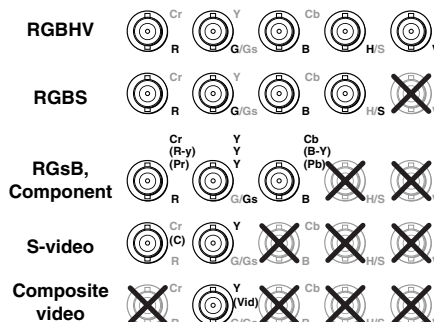

Figure 2-3 — Connections for various input video formats
- ① **Input 1 and Input 2 S-video connectors** — Connect S-video sources to these 4-pin mini DIN connectors. If necessary, use an 8" Extron SVHS - BNC adapter, part #26-353-01.
- ② **Input 1 and Input 2 composite video connectors** — Connect composite video sources to these female BNC connectors.
- ③ **Input 3 and Input 4 connectors** — Connect computer or RGB video, component video, S-video, or composite video to these female BNC connectors. Figure 2-3 shows how to connect the various video formats.
- ④ **Input 1 through Input 4 audio connectors** — Connect each unbalanced stereo audio input to these pairs (left and right) of RCA connectors. Computer sound cards and other devices with a 3.5 mm mini output connector can be connected using an optional Extron IN9107 3.5 mm stereo mini male to (2) RCA male cable.